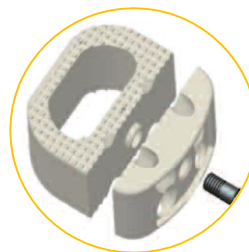

Figure 3a: Exploded view: Vault PEEK Cage, Vault Plate, Set Screw
- D. The Vault Plate is connected to the Vault PEEK Cage using the Vault Set Screw (10-1001). (Figure 3a & 3b)